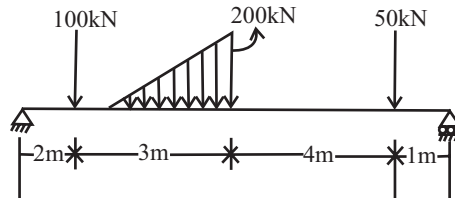

Fig. 4.1
- (a) Define a beam. What is a cantilever, a simply supported and a overhung beam? What is the point of contraflexure ? Draw the shear force and bending moment diagram for the beam as shown in Fig. 4.1.